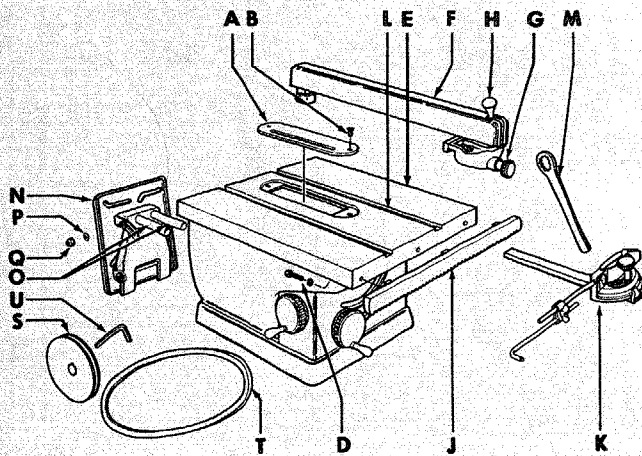
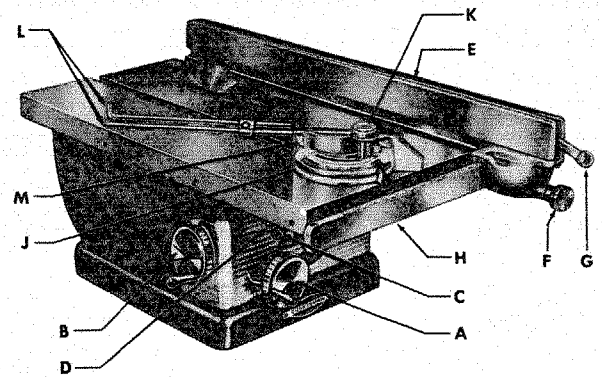

Figure 1
Figure 2
Your saw is shipped with the following loose parts wrapped separately and packed in same crate with the saw (see figure 1): Rip fence rack (J), three screws and lock washers (D), rip fence (F), miter gage (K), motor mount (N), motor pulley (S), V-belt (T), arbor nut wrench (M), and Allen wrench (U). Thoroughly clean the saw and these loose parts with a dry cloth. Remove the rust-preventive coating on the saw table by wiping it off with a cloth soaked in kerosene.
CHECK ARBOR NUT — Remove two screws (B, fig. 1) and lift out the insert (A, fig. 1). Check tightness of saw arbor nut (part 6362, fig. 5), using wrench (M, fig. 1). Replace insert and screws.
ALIGN SAW BLADE WITH TABLE GROOVES — Using elevation hand wheel (A, fig. 2), set saw blade for deepest cut. Make pencil mark on tooth that is just above table top at front of blade. Measure distance from this tooth point to right-hand table groove (L, fig. 1). Rotate blade by hand to place this same tooth just above table top at rear — then again measure distance from tooth point to right-hand groove. The two measurements must be exactly equal. If not, loosen the three screws (part S-860, fig. 4) in each trunnion which secure the table trunnion (part 13, fig. 4) to the table. Shift the two trunnions until the two measurements are equal, then retighten the screws. Again check measurement.
INSTALL RIP FENCE — Secure the rack (J, fig. 1) to the front skirt of the saw table, using the three screws and lock washers (D, fig. 1). Be sure to position rack with gear teeth facing downward — and with top edge of rack parallel with the top of table. Pull the rip fence knob (G, fig. 1) out to permit the guide of the rip fence (F, fig. 1) to slide over rack (J, fig. 1) — then place the rip fence on the saw table as shown in figure 2. A slight pressure must be exerted on the rip fence to cause it to seat properly on the rack. This is necessary because there are two bar alignment springs which act on the inner lip of the rack to hold the fence in continuous alignment. Slide fence along rack, noting clearance between fence and table top. If any part of the fence (other than the sliding pad at the rear) drags on the table top, or if the clearance between fence and table varies appreciably as fence is moved, rack (J, fig. 1) must then be readjusted. This can be done by again loosening screws (D, fig. 1) to reposition the rack.
ADJUSTING RIP FENCE PARALLEL TO SAW BLADE — Place the rip fence next to the right-hand table groove (L, fig. 1) and clamp it in place by pushing down on the cam clamp lever (H, fig. 1). Fence should be perfectly parallel to the groove. If not, loosen the four screws (parts S-1264 and S-1265, fig. 4) which secure the guide to the fence. Align fence with groove — then retighten screws.
MOUNTING THE MOTOR — Mount the motor (see Motor Specifications) to the motor mount assembly (N, fig. 1) — then mount the motor support assembly to the saw by sliding the two pins (O, fig. 1) into the mounting holes at the rear of the cradle. Place pulley (S, fig. 1) on the motor shaft, line it up with the pulley on the saw arbor, then tighten the pulley set screws. Install V-belt (T, fig. 1) over pulleys and adjust the belt tension by
PLACEMENT OF MITER GAGE — The miter gage assembly (K, fig. 1) can be used in either one of the two table grooves.
The following controls should be tested until the operator is thoroughly familiar with their uses. See figure 2.
ADJUSTING TILT GAGE — Using an accurate square, set saw blade at right angles to table top. Then adjust the pointer on the tilt gage (C, fig. 2) to "0".
ADJUSTING MITER GAGE SCALE — Using an accurate square, block the miter gage at the square position. Make a trial cut on a fairly wide board, then check this cut with the square. If cut is accurate, set the pointer on the miter gage scale (J, fig. 2) to "90".
ADJUSTING CAM CLAMP LEVER — If clamping action of lever (G, fig. 2) is too tight or too loose, it can be adjusted by increasing or decreasing the effective length of the rip fence clamp rod (part 6409, fig. 4). This is done by readjusting the clamp rod nut (part 6407, fig. 4) on the end of the clamp rod in back of the fence. When properly adjusted, the clamping lever should lock in a horizontal position or slightly lower.